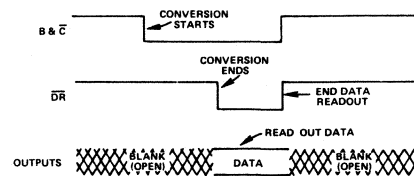
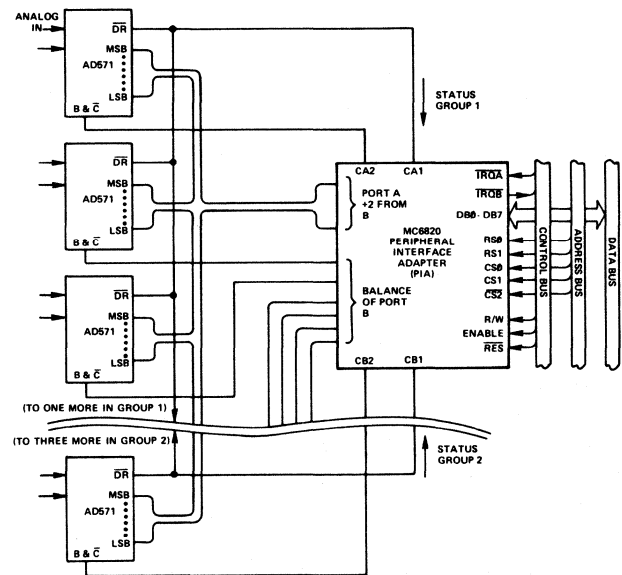

Figure 14. Multiplex Mode
Figure 17. Multiplexing 8 AD571's Using Single PIA for  $\mu\text{P}$  Interface. No Other Logic Required (6800 Control Structure)
**Multiplex Mode** – In this mode the outputs are blanked except when the device is selected for conversion and readout; this timing shown in Figure 14. A typical AD571 multiplexing application is shown in Figure 17.
An improved technique for interfacing to a  $\mu\text{P}$  bus involves the use of special peripheral interfacing circuits (or I/O devices), such as the MC6820 Peripheral Interface Adapter (PIA). Shown in Figure 17 is a straightforward application of a PIA to multiplex up to 8 AD571 circuits. The AD571 has 3-state outputs, hence the data bit outputs can be paralleled, provided that only one converter at a time is permitted to be the active state. The  $\overline{\text{DATA READY}}$  output of the AD571 is an open collector with resistor pull-up, thus several  $\overline{\text{DR}}$  lines can be wire-ored to allow indication of the status of the selected device. One of the 8-bit ports of the PIA is combined with 2-bits from the other port and programmed as a 10-bit input port. The remaining 6-bits of the second port are programmed as outputs and along with the 2 control bits (which act as outputs), are used to control the 8 AD571's. When a control line is in the "1" or high state, the ADC will be automatically blanked. That is, its outputs will be in the inactive open state. If a single control line is switched low, its ADC will convert and the outputs will automatically go active when the conversion is complete. The result can be read from the two peripheral ports; when the next conversion is desired, a different control line can be switched to zero, blanking the previously active port at the same time. Subsequently, this second device can be read by the microprocessor, and so-forth. The status lines are wire-ored in 2 groups and connected to the two remaining control pins. This allows a conversion status check to be made after a convert command, if necessary. The ADC's are divided into two groups to minimize the loading effect of the internal pull-up resistors on the  $\overline{\text{DATA READY}}$  buffers. See the MC6820 data sheet for more application detail.